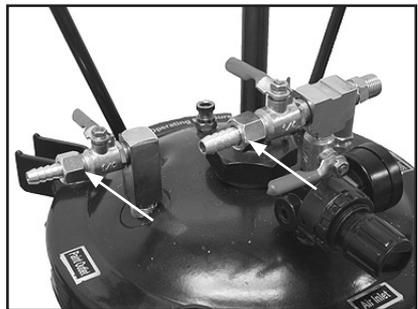

Figure 4. Spray gun fittings installed.
5. Connect the 1/4" push-on hose fittings to your air supply hose and onto the inlet fitting on the regulator (Figure 4).
4. Close all three valve levers on the tank (**Figure 4**), and rotate the tank regulator knob two turns counterclockwise.